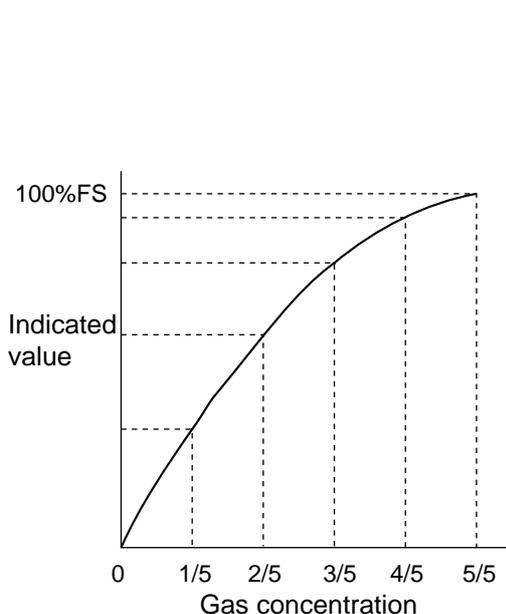

Fig. 4-1
- 3) Based on the result of measurement, prepare a graph of calibration curve (Fig. 4-1).